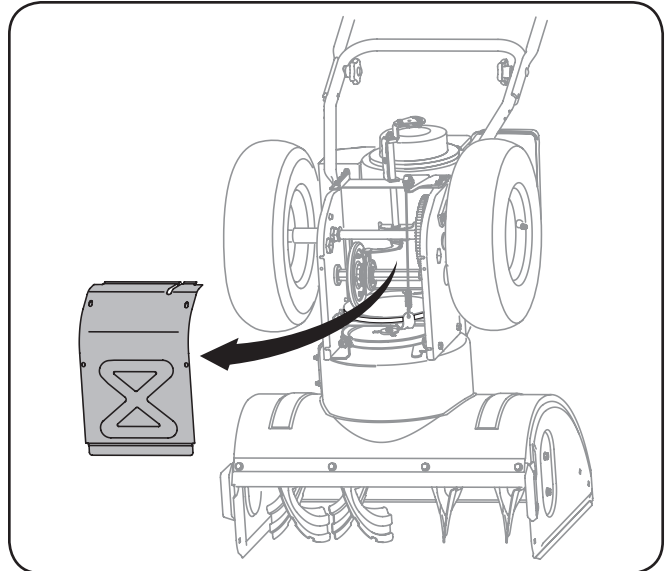

Figure 7-3
5. Remove the frame cover from the underside of the snow thrower by removing the self-tapping screws which secure it. See Figure 7-3.
5. Remove the frame cover from the underside of the snow thrower by removing the self-tapping screws which secure it. Refer to Figure 7-3.
- Remove the frame cover from the underside of the snow thrower by removing four self-tapping screws which secure it. See Figure 7-3.